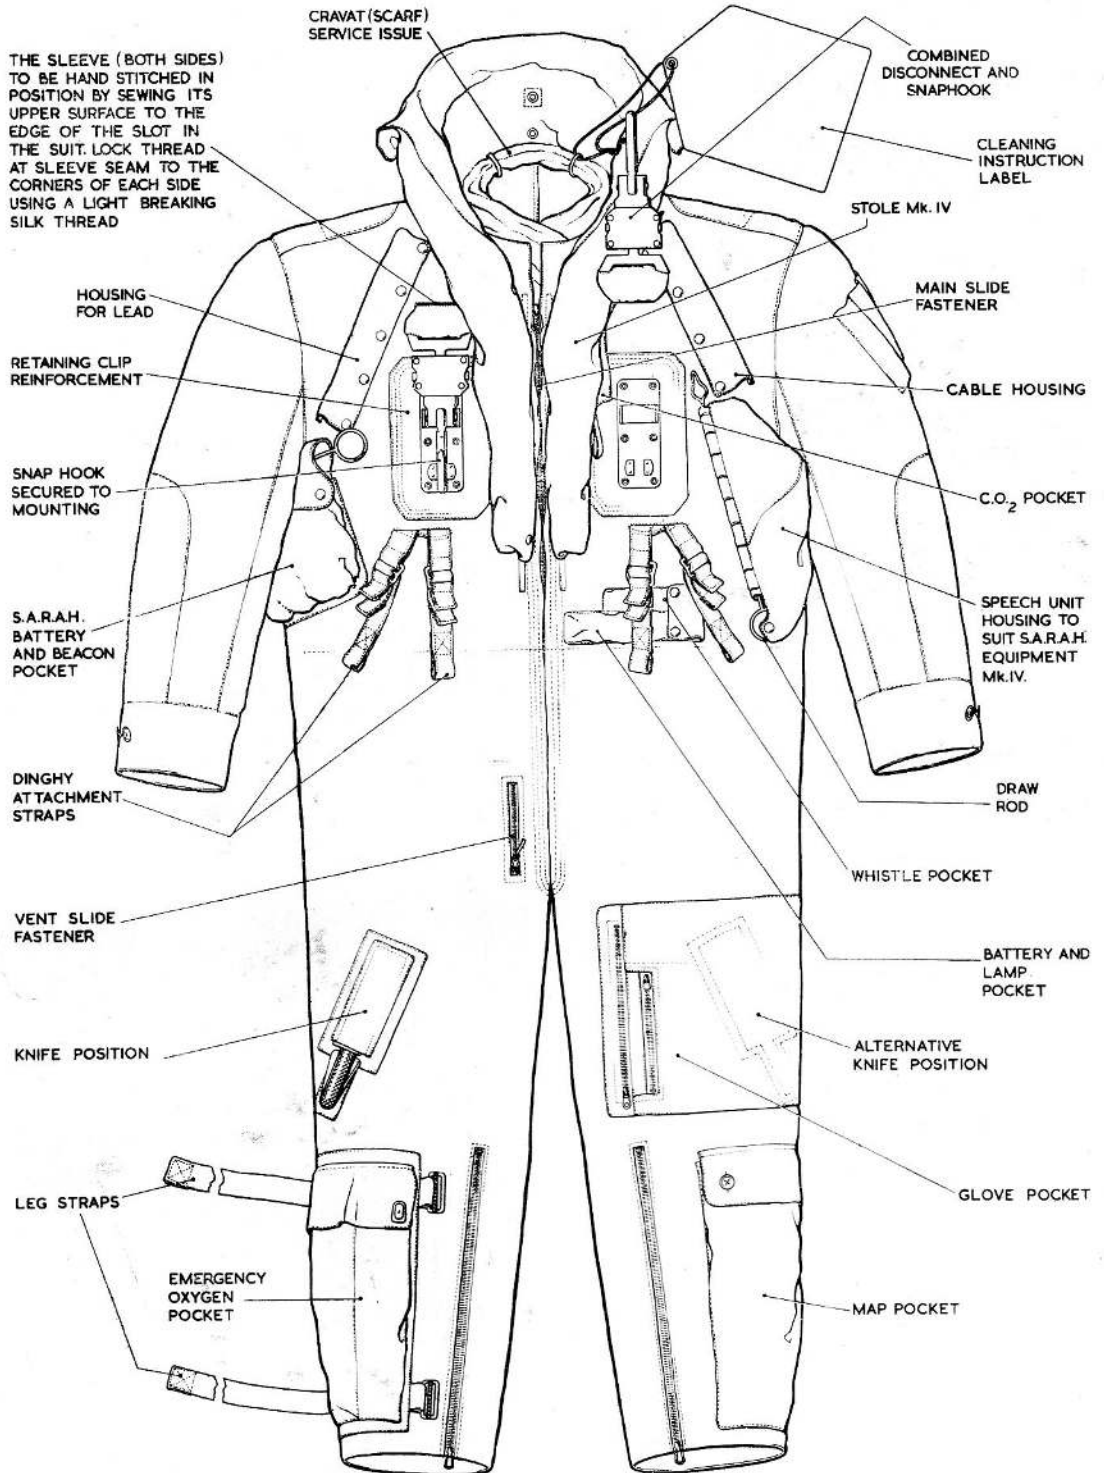

Fig. 2. Suit details
2. The suit is an overall type garment made from a mixture of flax and terylene, open at the front where a sliding fastener is fitted. Pockets and stowages are provided for the items given in para. 1 and lobe covers for the accommodation of the stole. The locations of the pockets and stowages can be seen in fig. 2. Those for the accommodation of the S.A.R.A.H. battery and speech unit are fastened with nylon draw rods which are passed through beackets on the stowages and the cover flaps. Details of the oxygen stowage not shown in fig. 2 can be seen in fig. 5.